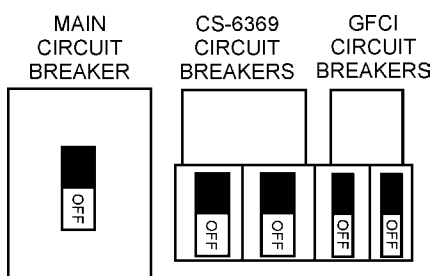

Figure 50. Main, GFCI and Load Circuit Breakers Off
1. Place both the **MAIN, GFCI and LOAD** circuit breakers as shown in Figure 50 to the **OFF** position..
2. To shut-down the engine in the event of an emergency, switch the **MAIN, GFCI and LOAD** (Figure 50) circuit breakers to **OFF** position.